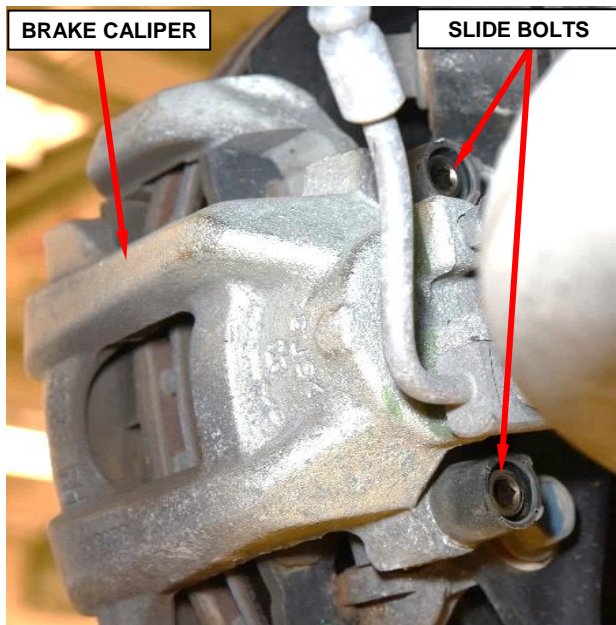

Figure 3 – Brake Caliper Slide Bolts
6. Fully loosen (unthread) the brake caliper slide bolts (guide pins) from the brake caliper adapter (Figure 3).
32. Tighten the brake caliper slide bolts (guide pins) to 27.5 N·m (20 ft. lbs.) (Figure 3).